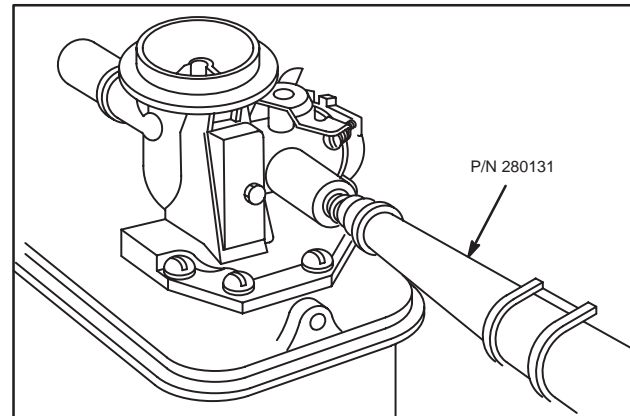

Fig. 169 – INSTALLING PRESSED-IN NEEDLE VALVE
5. Oil fill tube, Part #280131 will help firmly seat valve assembly, Fig. 169.